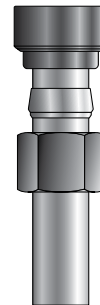
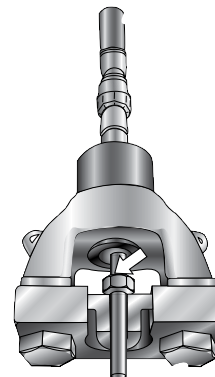

Figure 1
Figure 3
- Assemble CPI™/A-LOK® nut, CPI™/A-LOK® Ferrule(s) and body die onto tubing as shown in Figure 1. Be sure that the tapered end of the Ferrule(s) point toward the body die.
- Insert Tube Assembly, Figure 1 into Nut Die as shown in Figure 3.